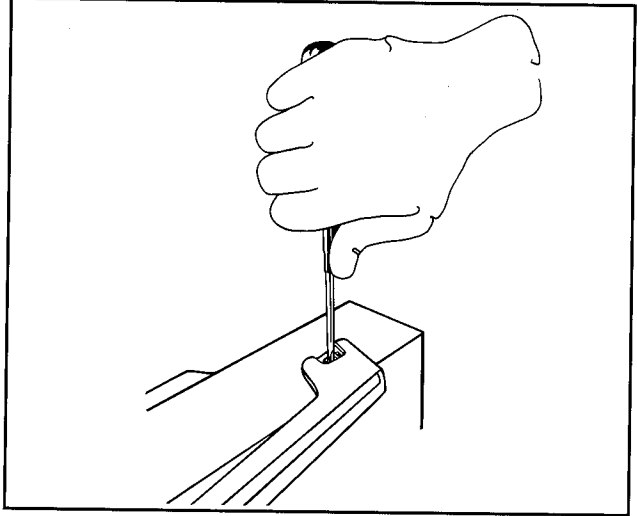

Figure 43
- b. Using a Phillips screwdriver, remove handle screws on top side of each handle on both doors. See Figure 43.